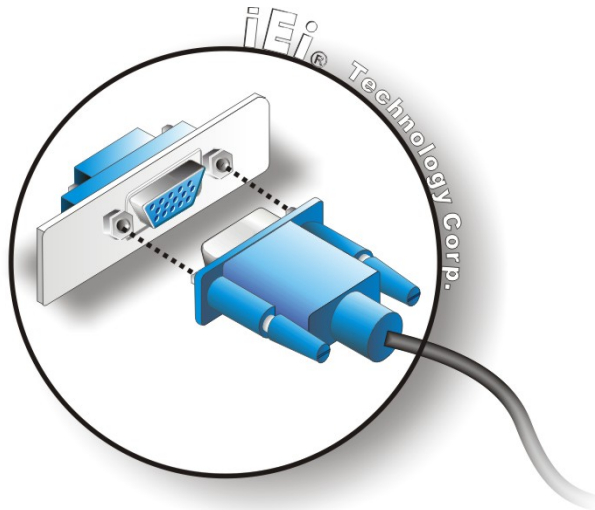

Figure 3-40: VGA Connector
Step 3: **Insert the VGA connector.** Once the connectors are properly aligned with the insert the male connector from the VGA screen into the female connector on the WIDS-51xA-H61. See **Figure 3-40**.